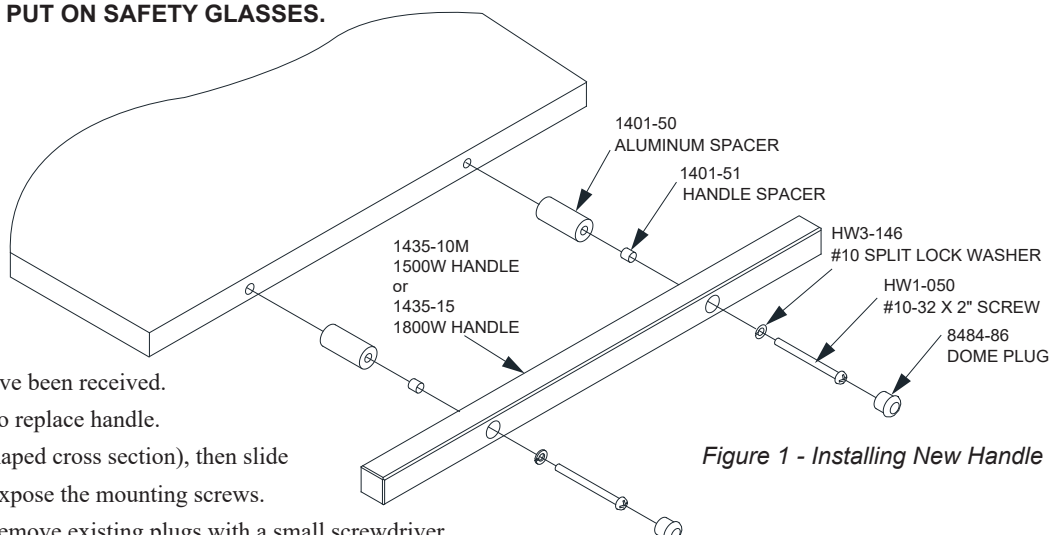

Figure 1 - Installing New Handle
- Attach the new handle to the lid with the new screws and spacers supplied as shown in Figure 1.